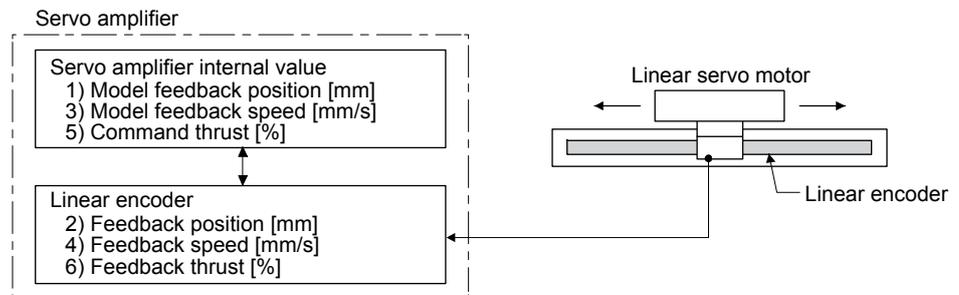

Figure 15.1 Outline of linear servo control error detection function
When you compare the model feedback position (1)) and the feedback position (2)) in figure 15.1, if the deviation is more than the value of [Pr. PL05 Position deviation error detection level] (1 mm to 1000 mm), [AL. 42.1 Servo control error by position deviation] will occur and the linear servo motor will stop. The initial value of this detection level is 50 mm. Change the set value as necessary.
When you compare the model feedback speed (3)) and the feedback speed (4)) in figure 15.1, if the deviation is more than the value of [Pr. PL06 Speed deviation error detection level] (1 mm/s to 5000 mm/s), [AL. 42.2 Servo control error by speed deviation] will occur and the linear servo motor will stop. The initial value of this detection level is 1000 mm/s. Change the set value as necessary.
When you compare the command thrust (5)) and the feedback thrust (6)) in figure 15.1, if the deviation is more than the value of [Pr. PL07 Torque/thrust deviation error detection level] (1% to 1000%), [AL. 42.3 Servo control error by torque/thrust deviation] will occur and the linear servo motor will stop. The initial value of this detection level is 100%. Change the set value as necessary.